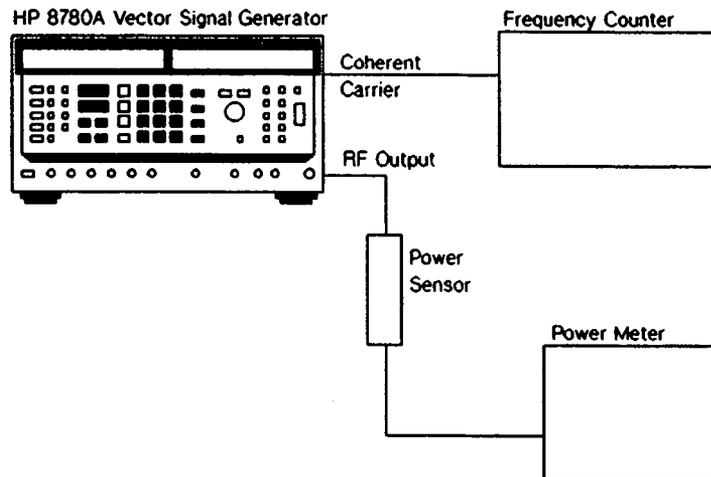

Figure 3-3. Operator's Check Test Setup
9. Connect the equipment as shown in Figure 3-3. Set the frequency counter to use the rear panel 10 MHz reference from the Generator.